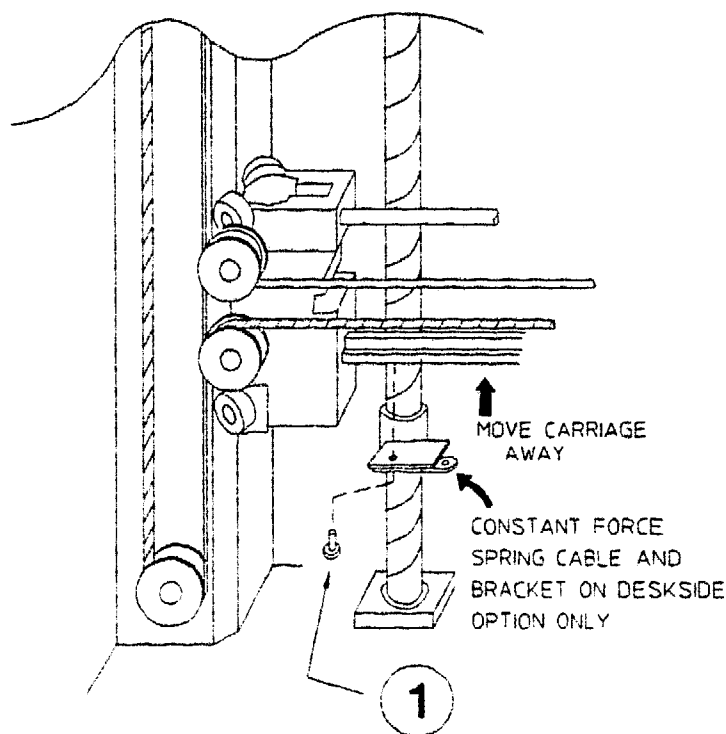

Figure 8-22. Separating the Carriage from the Carriage Bracket
Refer to Figure 8-22.
2. Remove the Pozidriv screw holding the Carriage Bracket to the bottom of the Picker Carriage (Figure 8-22 (1)). This screw is sealed by Loctite®.